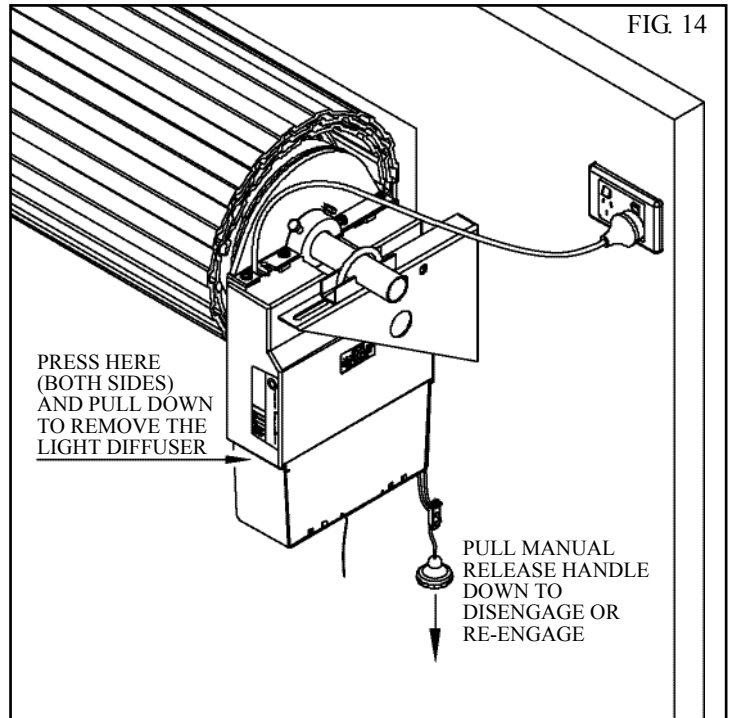

FIG. 14
2. Re-engage the drive gear to the door by pulling down on the string and then releasing (Fig. 14).
3. Remove the light diffuser as per Fig. 14. Plug in the opener and turn the power on.
1. With the drive assembly in manual mode (Fig. 14) move the door up by hand to an approximately mid open position.
7. With the drive assembly in manual mode (Fig. 14) move the door up by hand to an approximately mid open position.
8. Re-engage the drive gear to door by pulling down on the string and then releasing (Fig. 14).